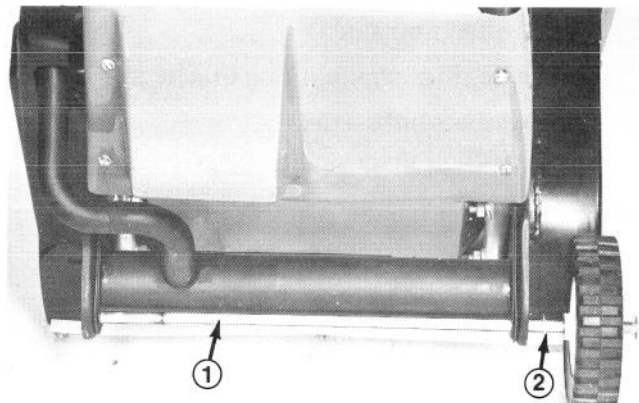

Figure 2
4. Slide axle through both mounting brackets (Fig. 2). Note position of flatwasher (Fig. 2).